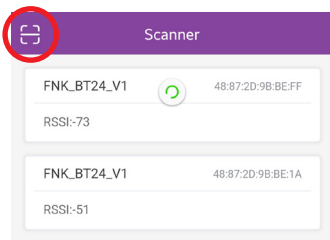

Fig. 1 - Access the QR Code Scanner
2. If you cannot see the battery in the list, select the [-] symbol at the top left hand corner of the scanner screen (refer Fig. 1).